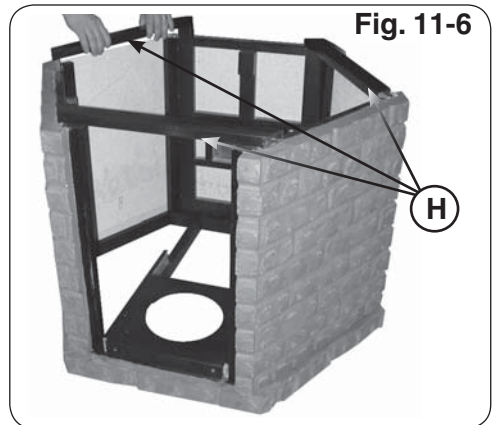

Fig. 11-6
5. Install the three channel supports (H) as shown in Fig. 11-6.